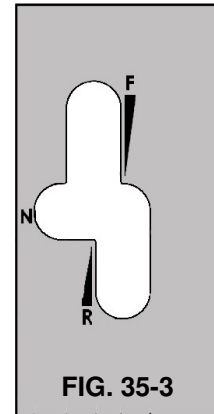

FIG. 35-3
3. To move forward, slowly push the hydrostatic lever forward. The farther the control lever is moved, the faster the sprayer will travel and the RPM 's will increase (fig. 35-3). To stop, slowly pull the lever to the "N" neutral position.